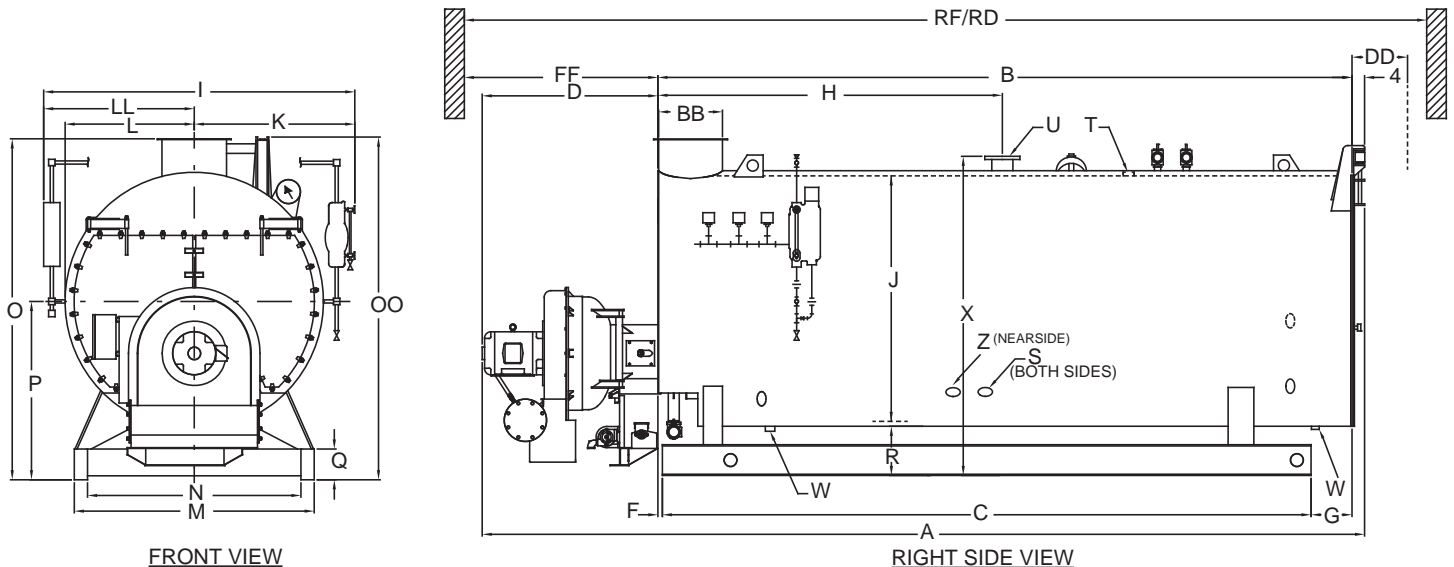

Figure A3-1. 4WG - Steam 100-800 HP
- Figure A3-1 Model 4WG Steam Boiler Dimensions